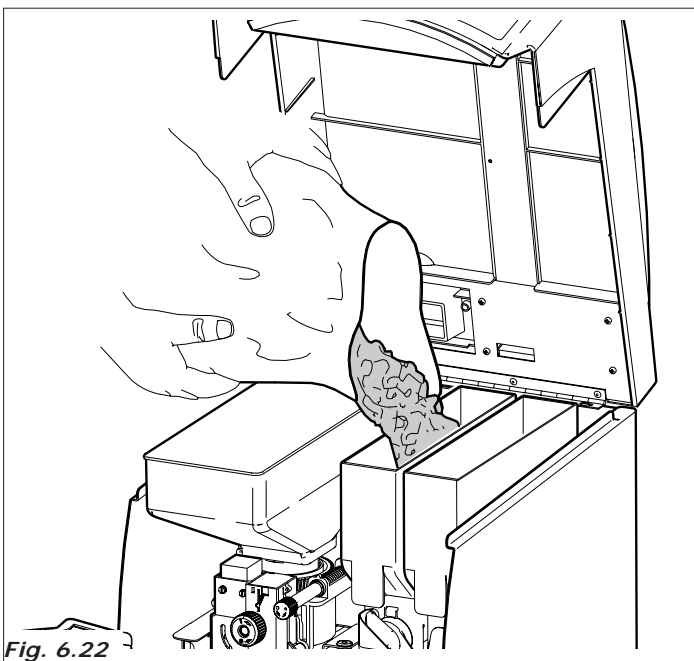
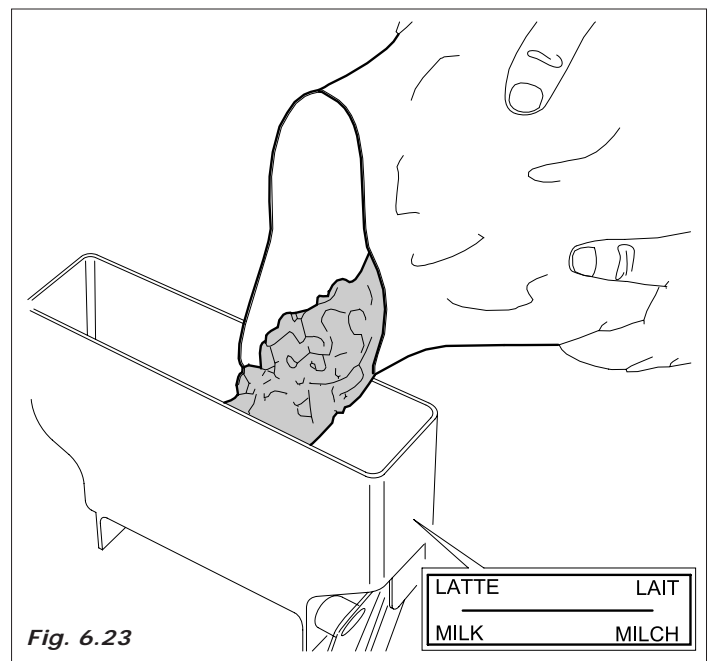

Fig. 6.22
Fig. 6.23
- remove the covers of each container and load the product according to the product indicated on the label (Fig. 6.22-Fig. 6.23).